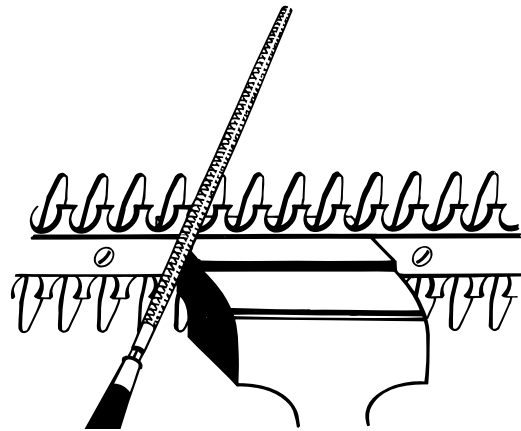

Fig. 8
1. Allow your hedge trimmer to come to a stop with the cutter blade and guard positioned as shown in Figure 8. This will allow clearance for the file between cutter teeth and guard teeth.